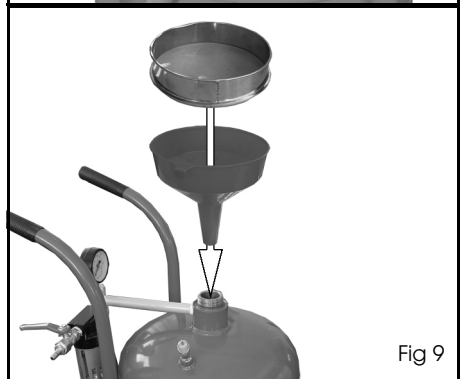

Fig 9
7. Using the sieve and funnel supplied, pour the abrasive material into the tank, see Fig 9.